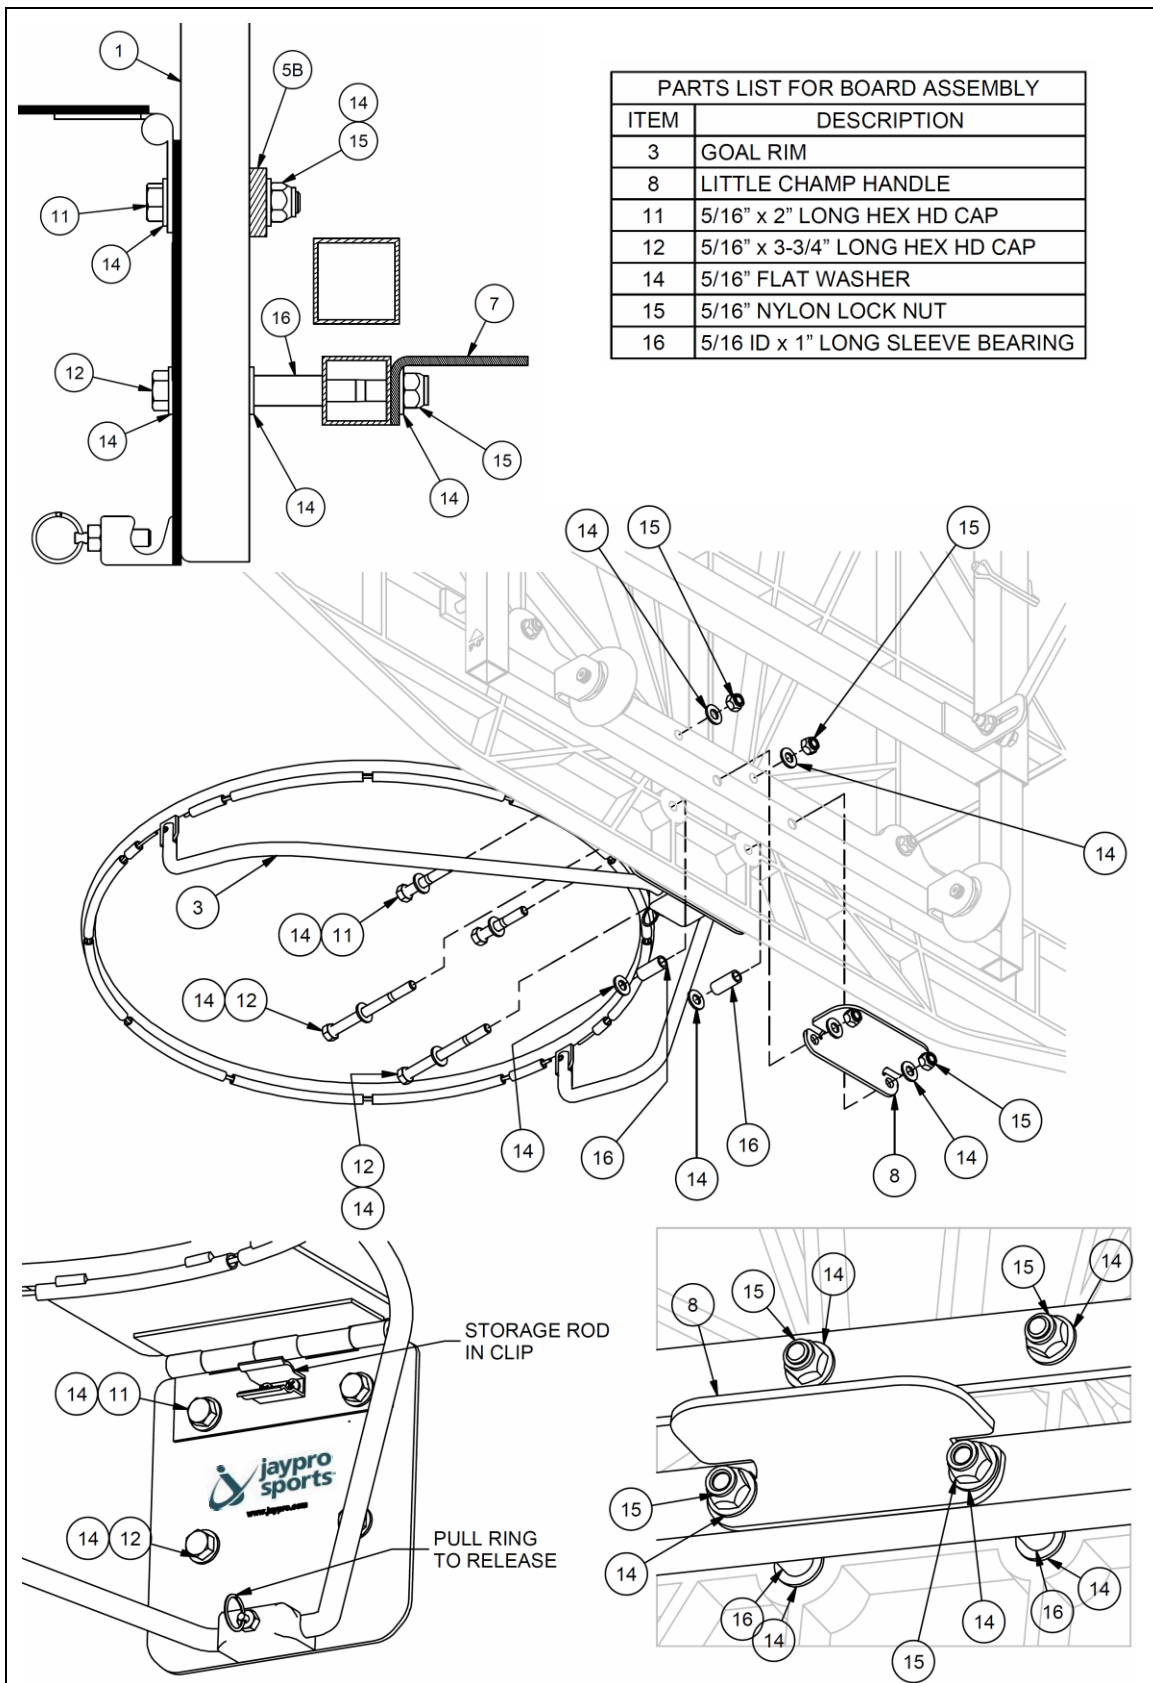

Figure 7 (Goal Rim Assembly)
- 9) Install the rim and handle (see Figure 7).